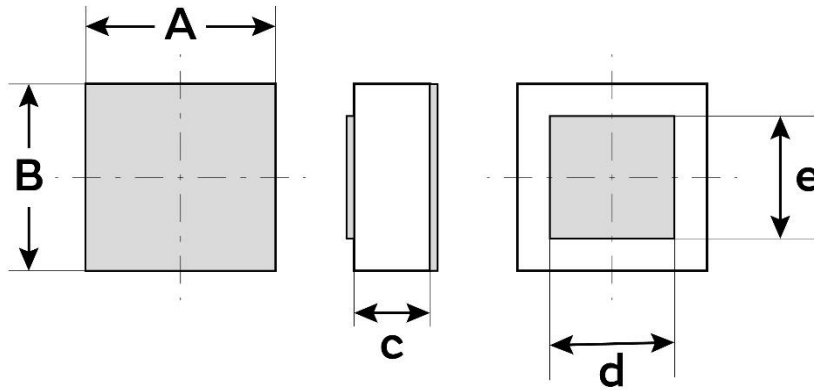

Figure 9 - Package outline drawing
(1) Other film frame carrier are possible on request
(2) Au = TiWAu (0.3µm) / Au (3µm)
(3) Refer to Figure 9